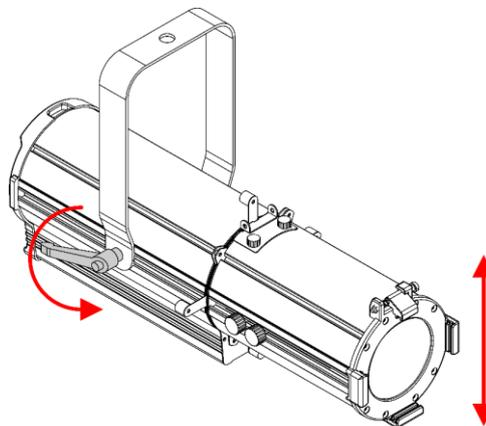

Fig. 01
- 01) Turn the **adjustment handle (14)** counterclockwise to release it.
- 02) Tilt the device at the desired angle (see Fig. 01).
- 03) Turn the **adjustment handle (14)** clockwise to tighten it. Make sure that the device cannot move freely after the **adjustment handle (14)** is tightened.